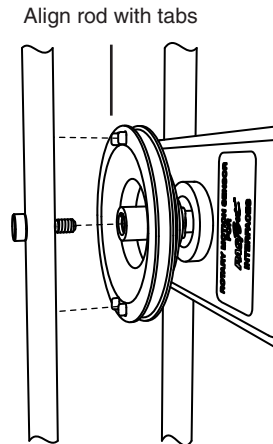

Figure 4: Attaching pendulum to RMS
4. Thread the screw into the end of the RMS shaft. Align the pendulum rod with the tabs on the pulley as shown in Figure 4. Tighten the screw.